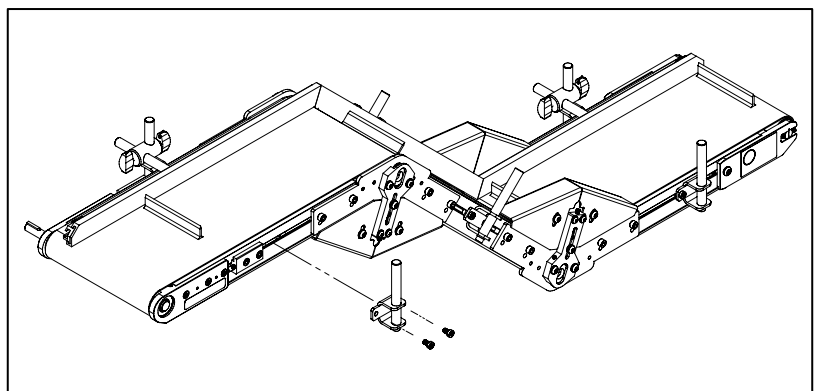

Figure 2
❷ Remove the Guide Brackets
b. Remove the guide brackets from the conveyor frame by unscrewing the M6 screws (**Figure 2**).